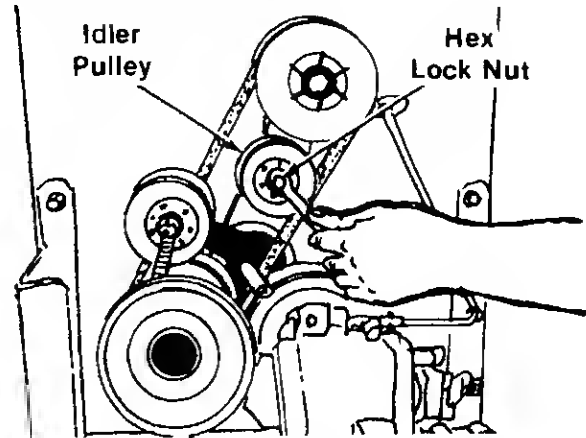

FIGURE 26.
10. Remove the idler pulley by removing the hex lock nut. See figure 26.